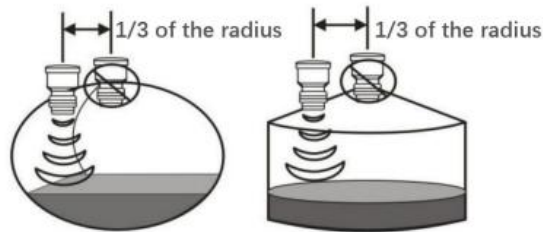

Figure 2
7.1.2 The shape of the vessel needs to be considered when installing the probe. If the probe is not installed correctly, a certain shape of the vessel will produce secondary echoes. This type of problem is mainly concentrated in the conical shape as well as the top of the spherical tank. This particular shape can refocus and amplify the emitted echoes to produce false readings. Choosing the correct mounting position can solve this problem. Please see Figure 2.